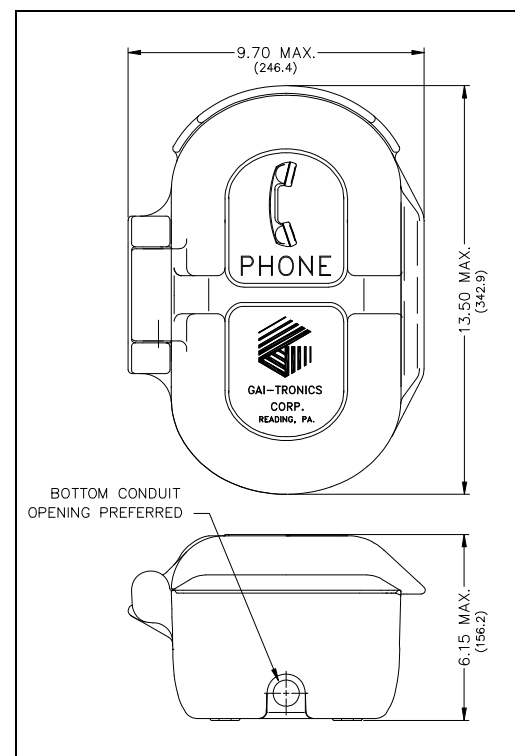

Figure 4. Model 226-005 Outline
5. Install a conduit fitting in one of the 1/2-inch NPT conduit entrances provided at both the top and bottom of the unit, and insert the conduit into the fitting. (The bottom location is preferred. See Figure 4.) Plug the unused access hole using the 3/8-inch Allen drive plug provided.